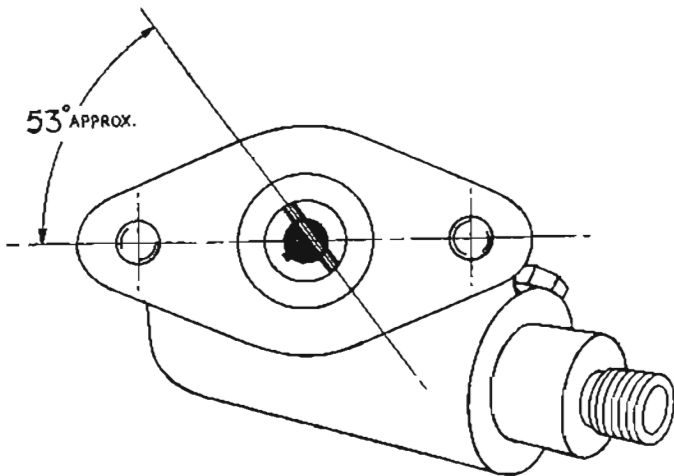

Fig. 16 Position of Slot in Distributor Boss when No. 1 cylinder is at T.D.C. on compression stroke.
When correctly engaged the slot in the distributor driving boss, with No. 1 cylinder at T.D.C. on the compression stroke, should assume a position approximately "five minutes to five" with the offset towards the rear of the engine (Fig. 16). In this position the slot will point directly towards the exhaust valve rod sealing tube for No. 1 cylinder, the distributor rotor will face No. 1 sparking plug, and the keyway in the helical gear will be aligned with the oil dipstick when fitted.
- (b) When refitting the oil pump and distributor driving helical gear, ensure that No. 1 piston is at T.D.C. on the compression stroke. In this position the correct engagement of the helical gear should allow the Woodruffe key to be positioned towards the front of the engine, pointing approximately towards the dipstick (Fig. 16). It may be found that the oil pump, shaft will not engage with the pump for the tongue and slot of these components are out of line. The engine will need to be turned over slowly until the shaft engages with the pump. Continue to turn the engine until the offset slot in the distributor drive boss attains the position as illustrated in Fig. 16. Disengage the helical gear and remove it from the housing. Turn the engine over until No. 1 piston attains the T.D.C. position on the compression stroke and replace the